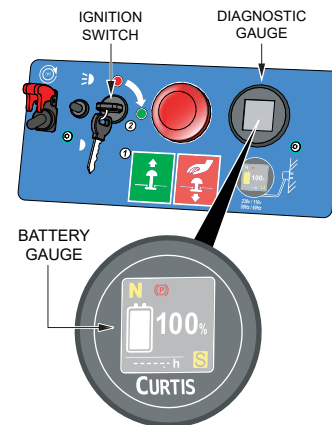

Figure 9. Ignition Key (Start)
4. Place the ignition key (Figure 9) in the **START** position. Allow the controller to run its diagnostic checks. In addition, check battery voltage level. If low, recharge batteries.